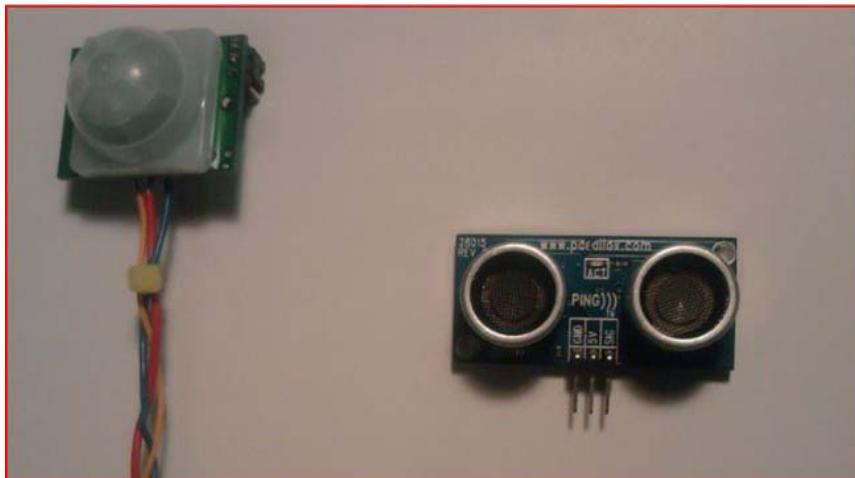

Figure 1-5. A PIR sensor (left) and a Sonar sensor (right)
- *Sensors:* These are very important because they give your projects life. Some sensor examples are PIR (Passive Infrared), sonar, and temperature (see Figure 1-5).